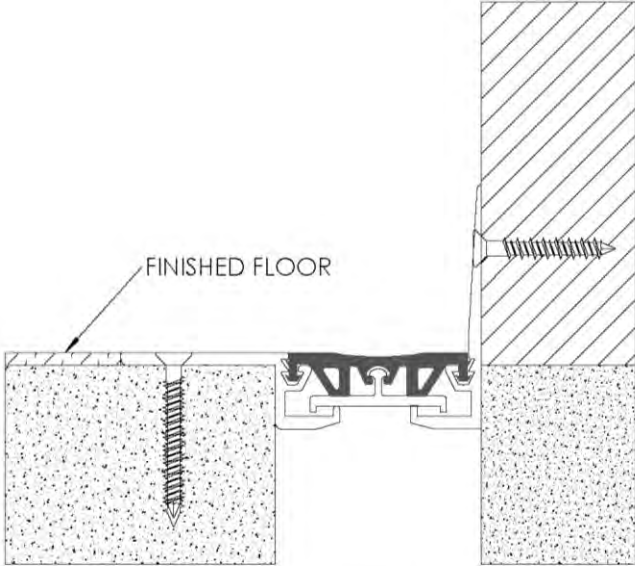

FIGURE 5
- 5. Finished tile floor (by others) may now be installed. **See Figure 5**